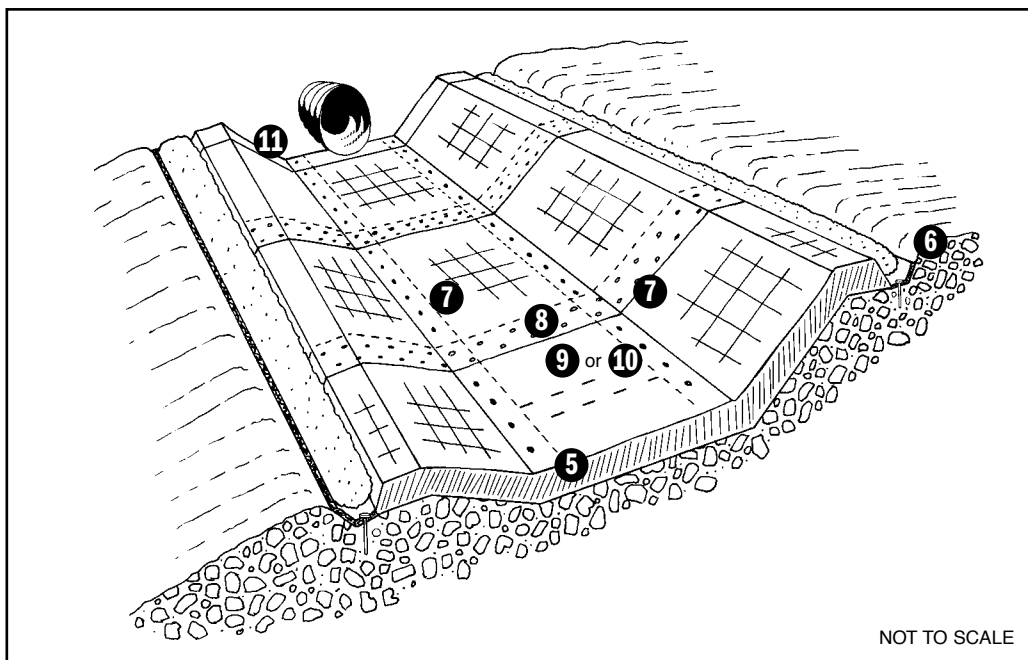

FIGURE 4 Installation of TRMs & HPTRMs in storm water channels
- ▶ Figure 4 shows general installation layout and details for TRMs and HPTRMs in storm water channels.